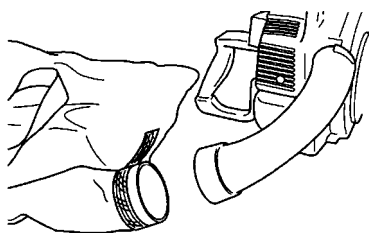

Fig.3-2
- Connect collector bag with the installed bent pipe by inserting opening of the bag onto thinner part of the pipe, then tape with the strap securely. (Fig.3-2)